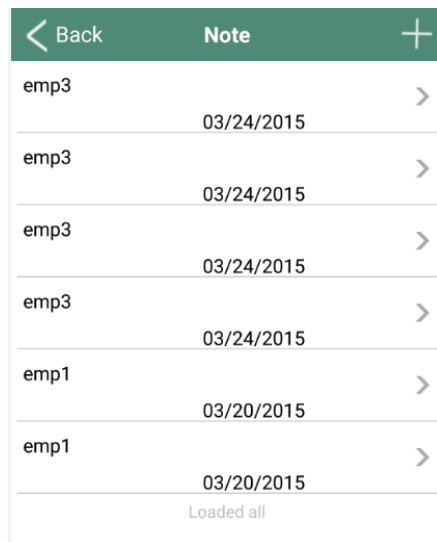

Fig.22. Note List
- Click on the “Note” button in the setting page to view a list of notes (Fig.22).